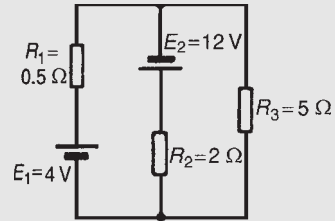

Figure 13.7
**Problem 3.** Determine, using Kirchoff's laws, each branch current for the network shown in Fig. 13.7